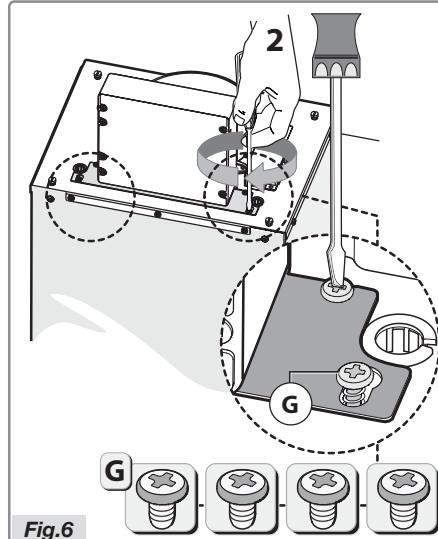

Fig.6
- Secure the bracket with the four screws **G**, as indicated in Figure 6.